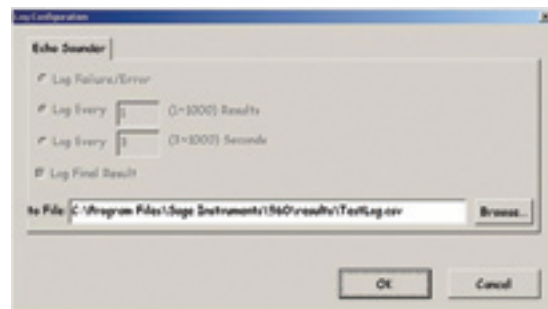

Figure 25
7. To save test results to a log file click the “Enable Log” button at the top of the Channel Configuration Window. This action un-greys the “Log To:” field. Clicking the Configure button next to the Log To field launches a dialog box, where you create a unique file name for your test log file ending in the suffix “.csv” (see figure 25). You can also browse to the location on your local machine or network where you want the log file to reside. Click OK to return to the Channel Configuration Window.